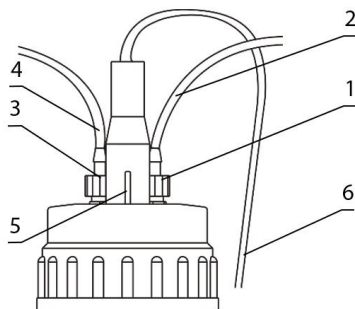
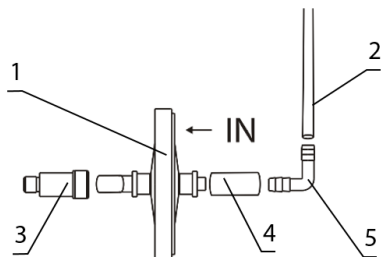
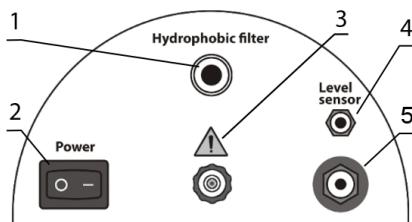

Figure 4. FTA-2i lid with sensor and tubing
Figure 6. FTA-2i filter setup.
Figure 7. FTA-2i rear panel.
1. Lid (see fig. 4).
- Assemble the filter set (figure 6) and connect it to the port on the rear panel of the unit (fig. 7/1).
**Caution!** Position the filter with the **IN** marking pointing away from the unit (fig. 6/1).
- Attach the fitting (fig. 4/1) of the tubing to the filter (fig. 4/2) to the valve with **white** ring on the lid.
- Ensure that the filter set is tightly fixed in the slot (fig. 7/1).
- Attach the fitting (fig. 4/3) of the tubing for liquids (fig. 4/4 and 5/3) to the valve with the **blue** ring on the lid.
- Connect the sensor cable (fig. 4/5) to the lid of the unit and to the port on the rear panel of the unit (fig. 7/4).
- Connect the external power supply unit into the socket at the rear side of the unit (fig. 7/5) and position the unit for an easy access to the external power supply and the power switch.
8.1 Different aerosols and vapours from volatile and hazardous agents can have a damaging effect on the specific parts of the units. Please see below for **FTA-1** and **FTA-2i** material compatibility tables 1 and 2 with different common laboratory chemicals. It is required to use the **FTA-2i** pump's exhaust (fig. 7/3) by connecting it to the means of required filtration through a tube or, alternatively, by placing the unit in a fume hood when working with volatile and hazardous agents. **FTA-1** does not have pump exhaust connector available; therefore, it is obligatory to place the unit in a fume hood. It is suggested to test the compatibility of related parts to a specific chemical prior to extensive use. Biosan does not warrant that the data in the tables is correct or comprehensive and that any material is fit for any purpose.